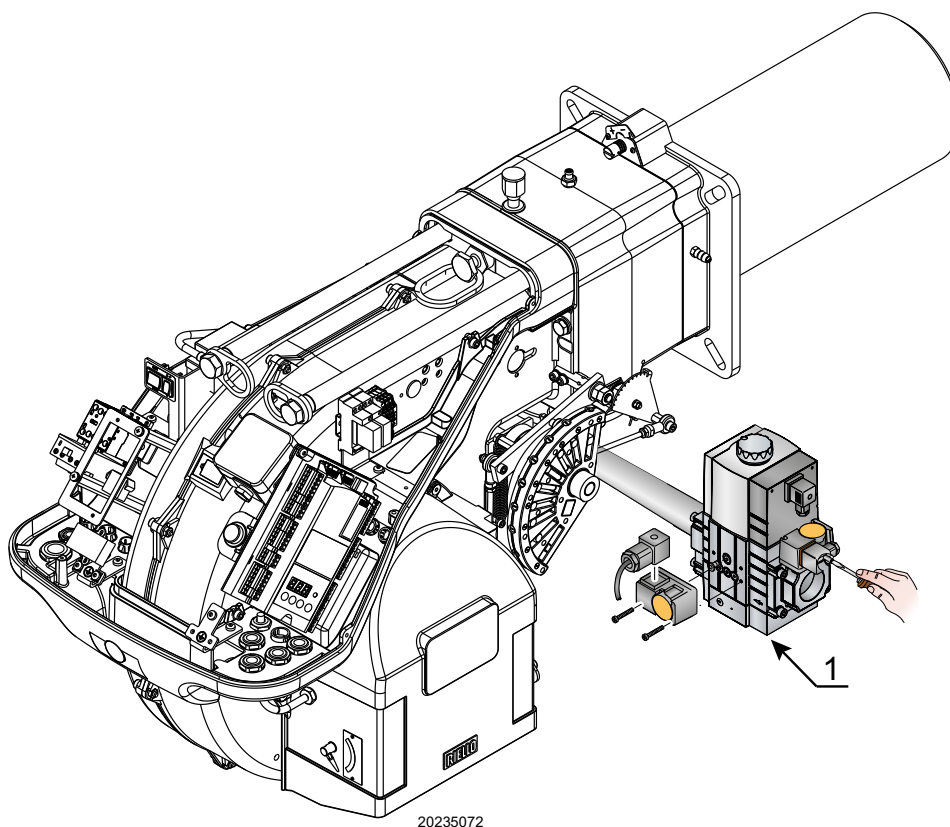

Fig. 27
- Check the gas supply pressure by connecting a pressure gauge to the pressure test point 1)(Fig. 27) on the minimum gas pressure switch; it must be lower than the maximum permissible pressure for the gas train, as specified on the data plate.
- Bleed the air from the gas train piping by connecting a plastic tube to pressure port 1)(Fig. 27) on the minimum gas pressure switch. Route the vent tube outside the building until the smell of gas is detected.
The arrival of gas to the sleeve is indicated by the U-type pressure gauge (Fig. 27).